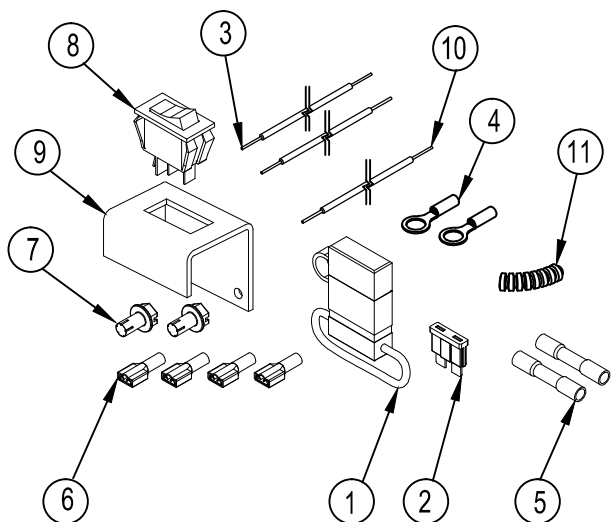

Figure 1: Anteo Cab Cut-off Switch Kit
1. **Verify** Anteo Cab Cut-off Switch Kit (Figure 1 and Table 1).